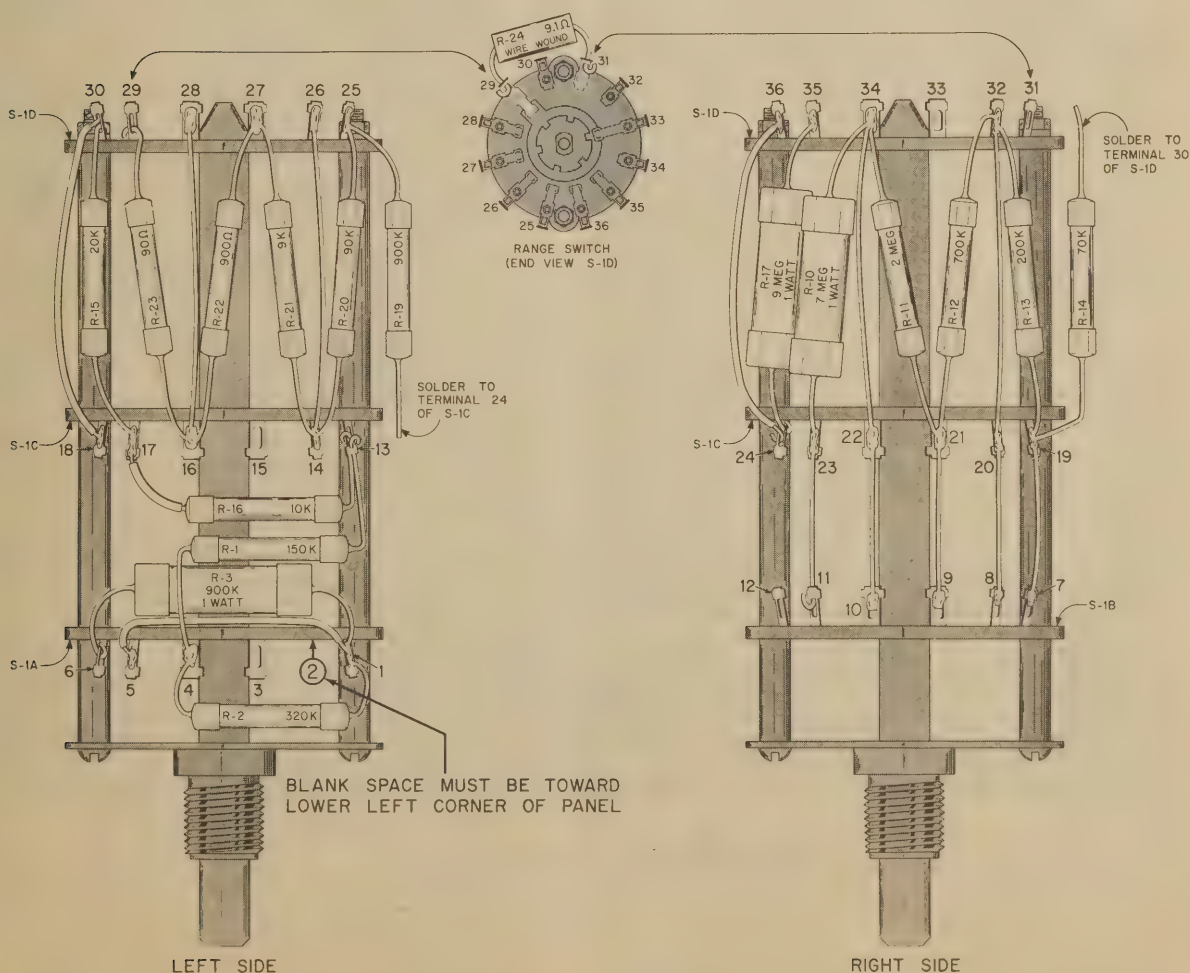

FIGURE 7. HOW TO WIRE THE RANGE SWITCH
SEE FIGURE 7.
- (✓) Connect, but do not solder, one end of R-2, 320K ohm resistor, to terminal 1 of S-1. Connect, but do not solder, the other end to terminal 4 of S-1. Position R-2 as shown in Figure 7.
- (✓) Connect, but do not solder, one end of R-3, 900K ohm, 1 watt, resistor, to terminal 1. Connect, but do not solder, the other end to terminal 6. Position R-3 as shown in Figure 7.